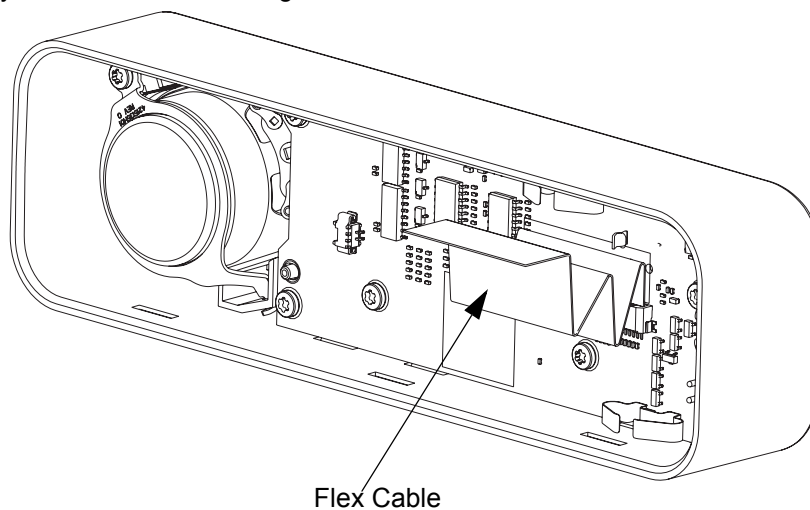

Figure 5-42 Flex Cable Assembly
7. Assemble the flex cable to the mating connector on the control head board, making sure it is fully seated as shown in Figure 5-42.